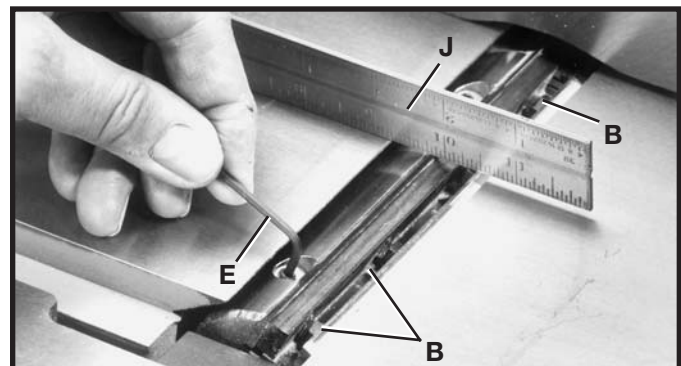

Fig. 61
13. Lower the infeed table and place a straight edge (J) Fig. 61, on the outfeed table extending over the cutterhead as shown.
14. Rotate the cutterhead by hand until the knife is at its highest point at each end of the cutterhead. To raise the knife, use wrench (E) Fig. 61, and turn raising screw clockwise until the knife just touches the straight edge (J) on each end and center of the cutterhead when the knife is at its highest point. When you are certain the knife is adjusted properly, tighten the four locking screws (B) by turning them counterclockwise.